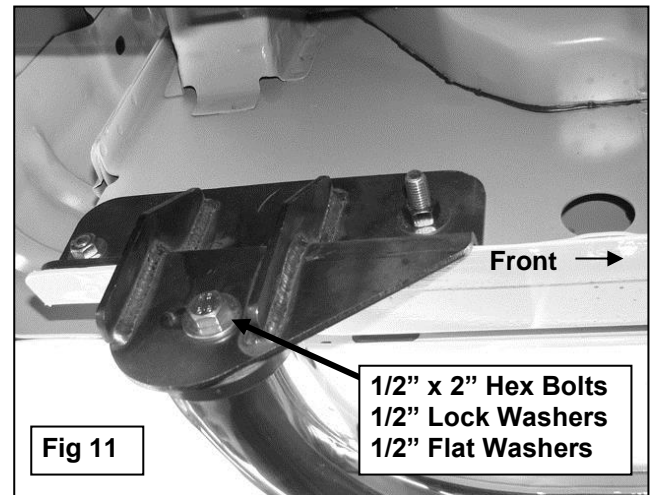

Fig 11
9. Attach the Sidebar to the Mounting Brackets using the included (2) 1/2" x 2" Hex Bolts, (2) 1/2" Flat Washers, and (2) 1/2" Lock Washers, **(Figure 11)**. Do not tighten hardware at this time.